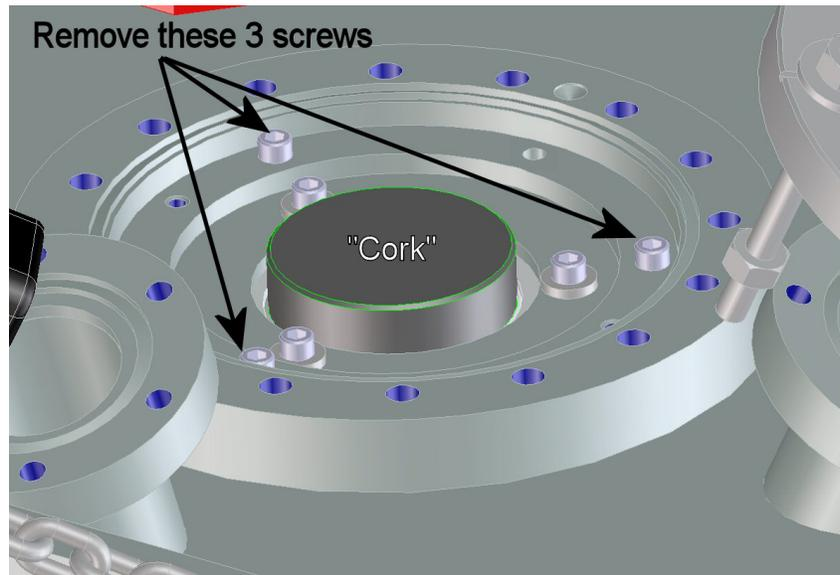

Figure 2. Location of the flange mounting screws and the placement of the “cork” into the sample transfer tube.
5. “Cork” (with the aluminum piece made for this purpose) the tube going into the ultra high vacuum box (see Figure 2).
6. Remove the three screws of the inner flange plate (see Figure 2).